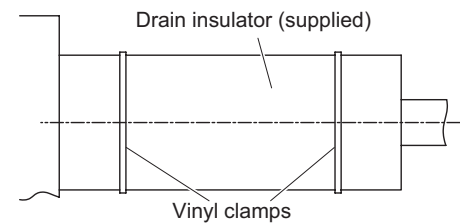

Fig. 2-149
- (2) After checking the drainage, wrap the supplied packing and drain pipe insulator around the pipe, then secure it with the supplied clamps. (Fig. 2-149)